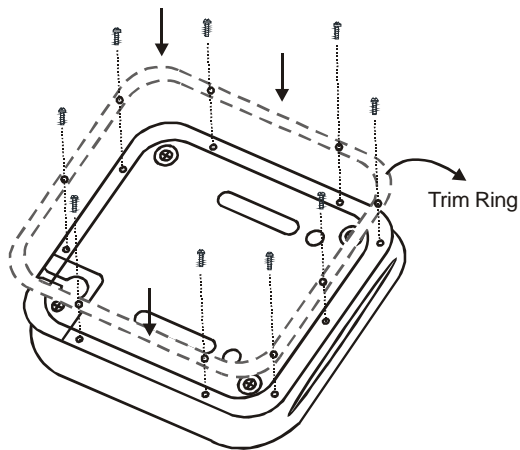

Figure 1
- 1) The trim ring is attached to the video monitor using the perimeter screw bosses. It is important that the screws used in this installation are not overtightened, and that the video monitor and trim ring are mounted in such a way that the assembly does not distort (or bend) when the mounting screws are tightened. The trim ring **MUST** be screwed to the unit. (Refer figure 1)